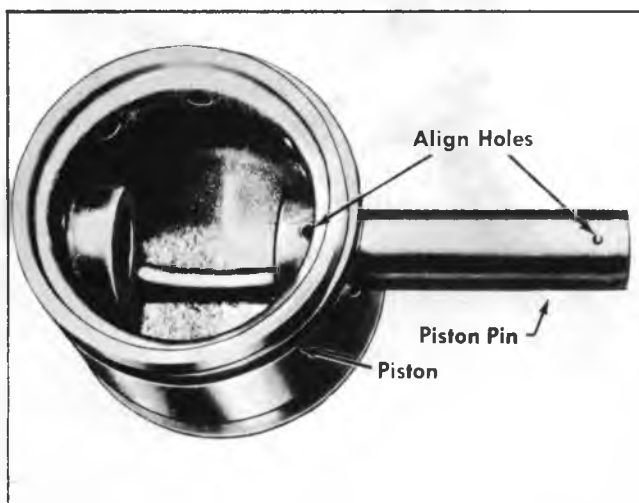
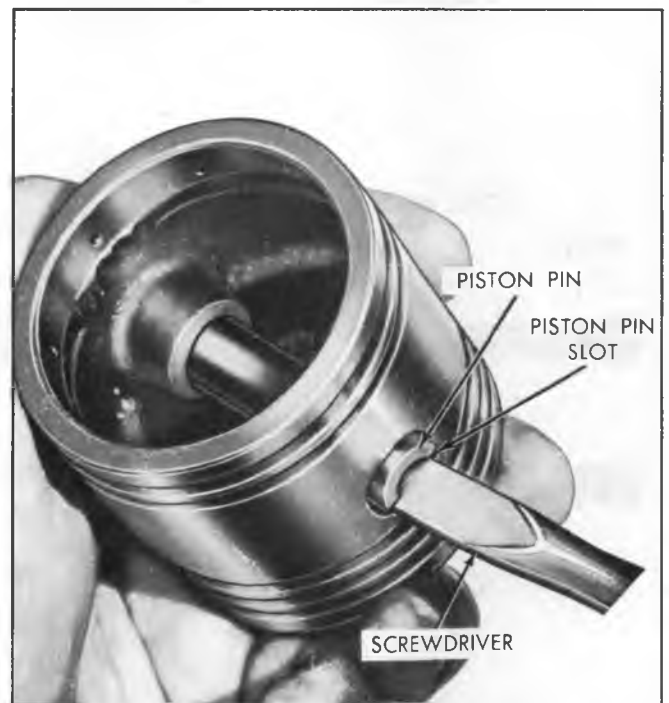

Fig. 17G--Alignment of Piston Pin and Piston Lockwire Holes
Fig. 18G--Rotation of Piston Pin
1. Position connecting rod in piston and press piston pin into piston with lock wire holes in pin aligned with lock wire holes in piston (refer to fig. 17G). The piston pin can be rotated by inserting a screwdriver into the piston pin slot (fig. 18G) to align piston pin lock wire hole with the lock wire hole in the piston boss.